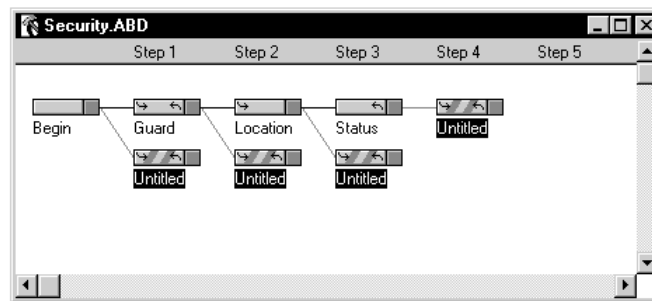

Figure 4-45 Selected Input Handlers Now Detour Handlers
19. The selected Input Handlers now appear with stripes to indicate that they are Detour Handlers (Figure 4-45).